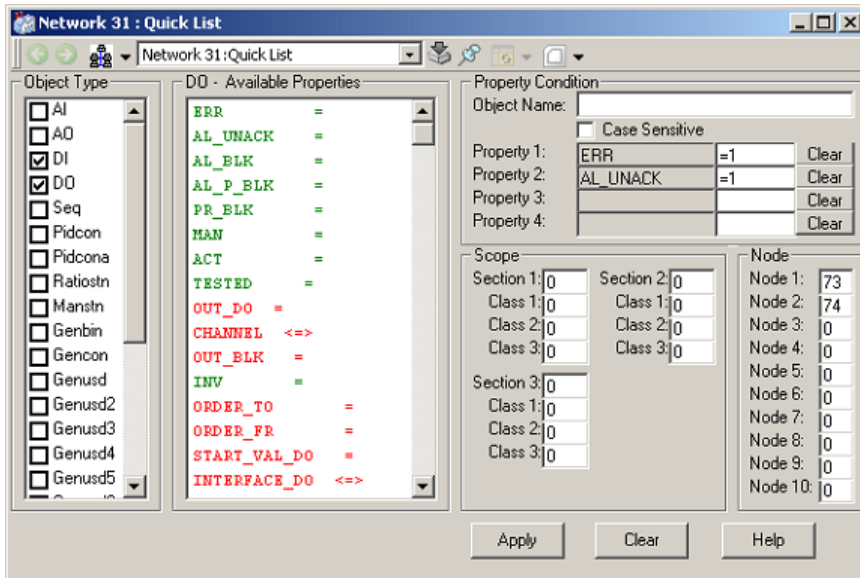

Figure 11. Quick List Configuration Example.
The properties common to both these object types are shown in Green color (Red colored are not common, and are not possible to select in the **Properties** area). See Figure 11.
8. Change the text fields **Node1** to “73” and **Node2** to “74”. Click **Apply** to store the configuration. Now the configuration should look like Figure 11.